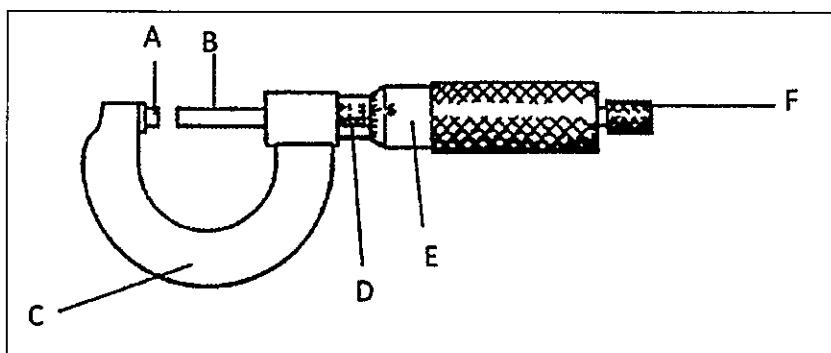

Figure 1a / Rajah 1a
- CLO1 (a) Name the parts labelled A, B, C, D, E and F as shown in **Figure 1a**.